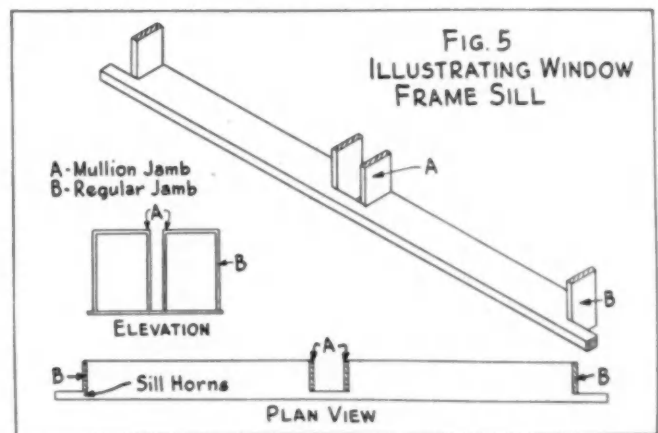

FIGURE 5: Continuous sill for mullion windows.
**NOTE:** There are two ways of constructing a mullion or triplet frame. One way is to construct the frame with a continuous head jamb, the mullion side jambs being "gained" into it. The second method is to construct the frame by making each opening in it a separate one, this method requiring two side jambs and one head jamb for each window. The sill is always continuous for all mullion and triplet frames. (See figure 5.) The window jamb rule given above applies to the second situation.